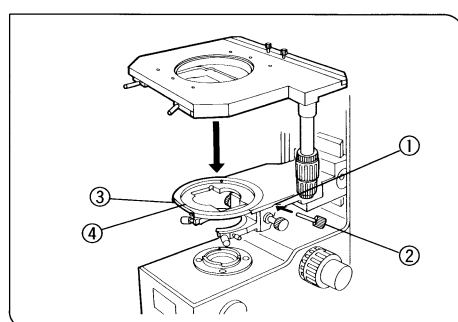

Fig. 3
3 Attaching the Stage (Figs. 3, 4, 5)
(Figs. 3, 4, 5)
- 1. Attach the two provided stage centering knobs ② onto the two stage centering screws ①. Rotate counterclockwise to loosen.
- 2. Fully loosen the clamping screw ③ with the Allen wrench (3 mm).
- 3. Aligning the pin at the front of the substage ④ attached to the microscope frame with the notch in the stage, carefully lower the stage into the substage. Rotate the stage centering knobs ① a few turns. Then lightly tighten the clamping screw. (Fig. 3)